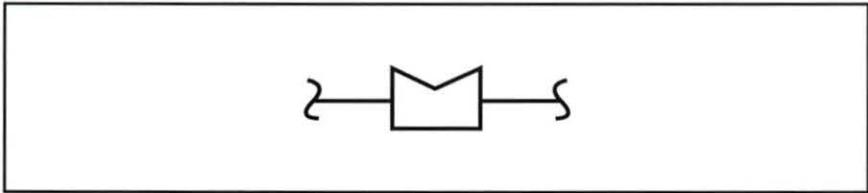

Figure 52. Flow Sensing Element Symbol
6. Determine what type of flow sensing element symbol is shown in figure 52.